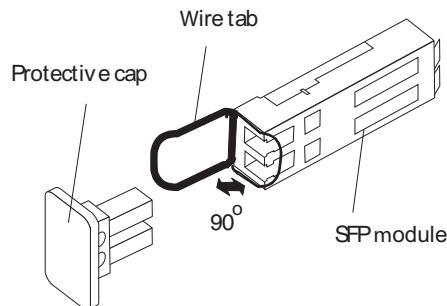

Figure 74. Unlocking the SFP module latch - wire variety
- For SFP modules that contain wire tabs, unlock the SFP module latch by pulling the wire latch outward 90°, as shown in Figure 74.